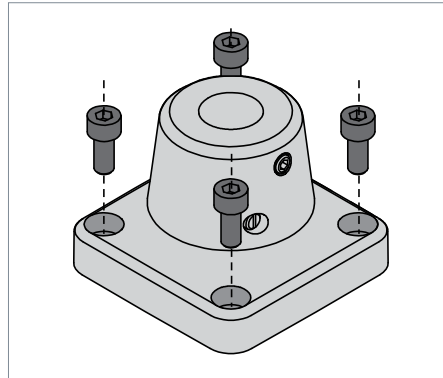

Fig. 1: Fastening element
- Screw the fastening element to the mounting surface using four suitable screws, see Fig. 1